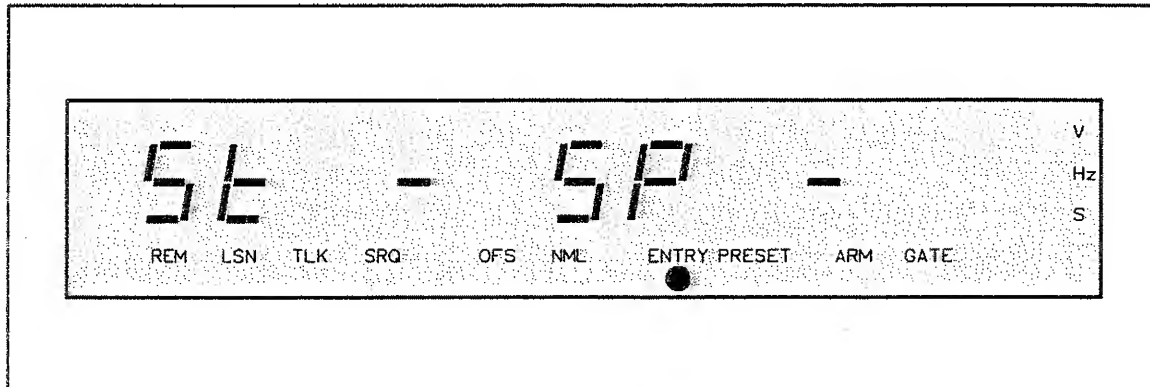
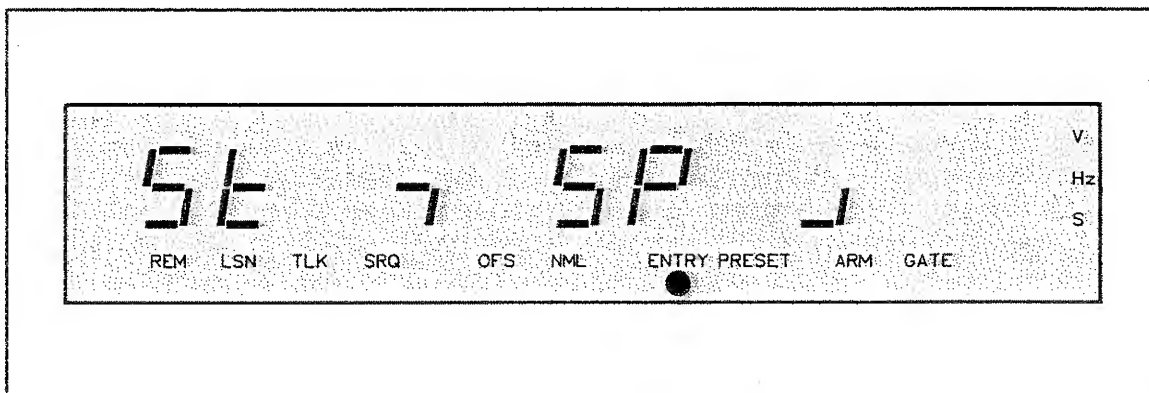

Figure 3-34. EXTERNAL ARM SELECT Entry Mode Display, Arming Off
Figure 3-35. EXTERNAL ARM SELECT Display, Arming States Selected
3-196. External arming can be used to specify the start and/or stop of a measurement, by a signal that is not directly involved in the measurement. When external arming is enabled, a signal must be connected to the ARM input connector to arm the gate to open and/or close. Pressing the EXT ARM SELECT key displays the arming status, shown in Figure 3-34, and allows the START ARM (open gate) and/or STOP ARM (close gate) states to be changed.
3-197. The arming status is represented as "St" (START ARM) and "SP" (STOP ARM). The states are defined by "—" (arming off), shown in Figure 3-34; and "7" (arming set on negative slope), and "┐" (arming set on positive slope) as shown Figure 3-35 slope). The channel A SLOPE key controls the START ARM, and the channel B SLOPE key controls the STOP ARM.
2. The counter displays, "St" for start arm, "SP" for stop arm, and the current start/stop arm states (see *Figure 3-35*).
3. The ENTRY light flashes, indicating the arming states may be changed (see *Figure 3-35*).
Figure 3-35 shows the EXT ARM SELECT entry mode display, with the START ARM set negative, and the STOP ARM set positive.